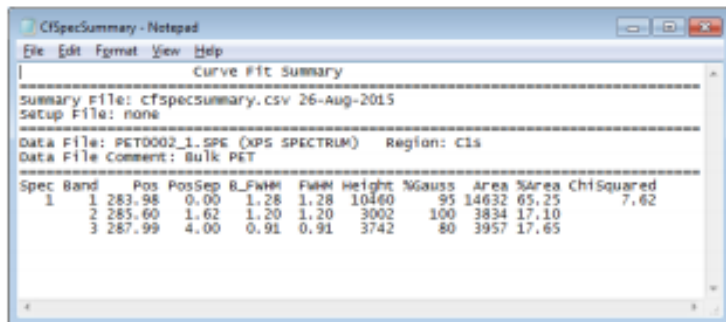

FIG 14. ViewSum button opens summary table.
6. Click the **ViewSum** button at the bottom of the Spectrum window to open a summary (FIG 14) of the fit in a separate text window that can be saved as a .csv file.